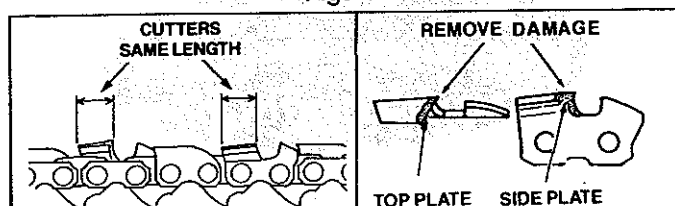

Figure 32
- d.) Keep all cutters the same length. Figure 32.
- e.) File enough to remove any damage to cutting edge (side & top plate) of cutter. Figure 32.